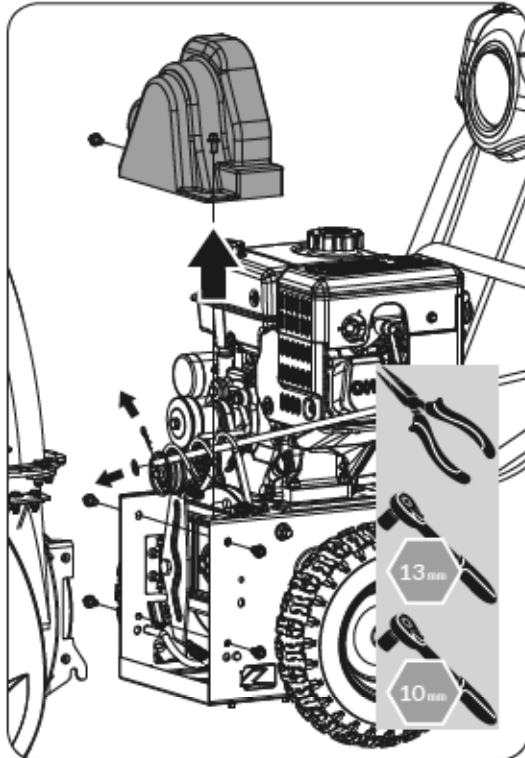

Figure 17c
5. Remove the screws securing auger housing to the frame (two on each side). Tip auger housing and frame. (See Figure 17c)